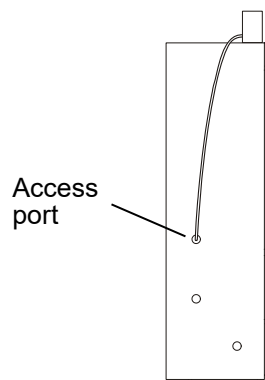

Fig. 3
3. Remove the caps (both outside and inside) covering the access port for refrigerator and take out the thermal insulation in the access port. Pass the recorder sensor to the refrigerator through the access port [Fig. 3]. Then replace the thermal insulation and caps (both outside and inside).
3. Remove the cap on the port for taking out the recorder sensor and take out the recorder sensor. Then set the temperature recorder with recorder fixing to the space for a temperature recorder. [Fig. 3]